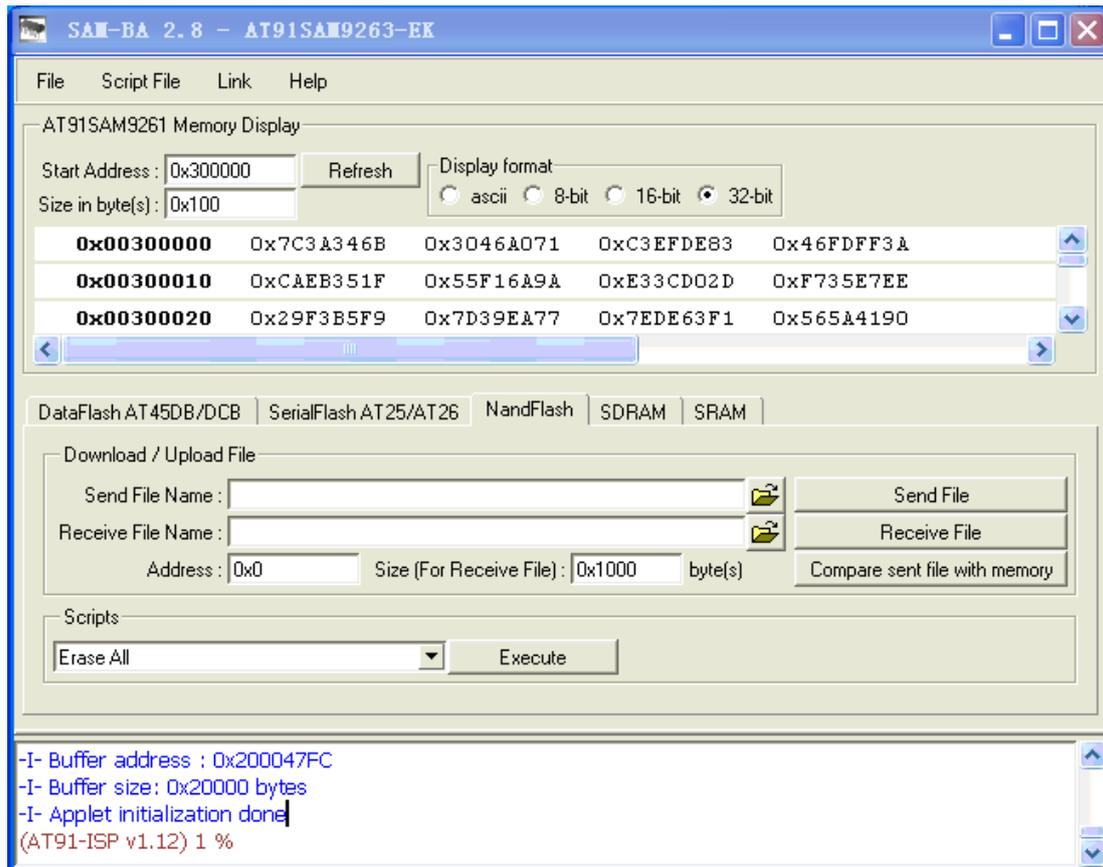
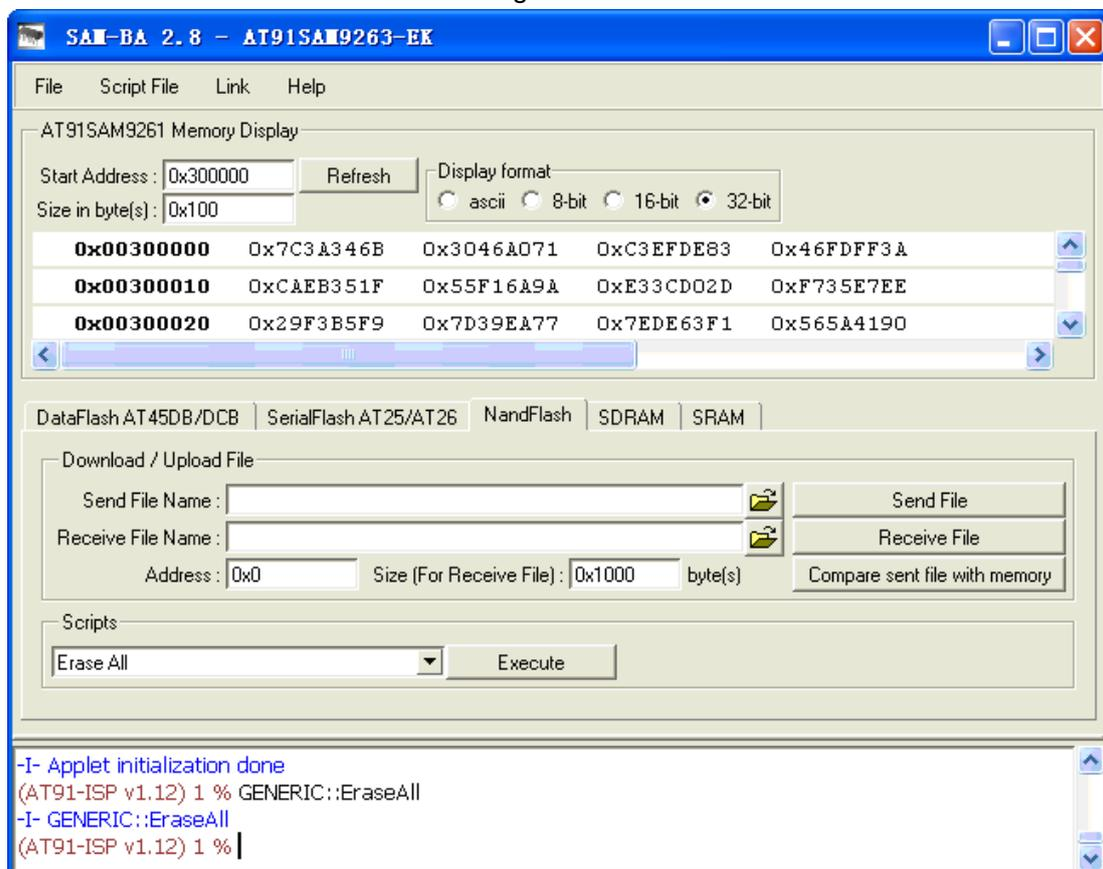

Figure 3.18
Figure 3.19
- As shown in Figure 3.18 in the Scripts pulldown menu of SAM-BA v2.8, select Erase All, click Execute button in SAM-BA v2.8, SAM-BA v2.8 will automatically erase entire NAND flash. After the Erase operation is successful, the interface as shown in Figure 3.19 will appear: